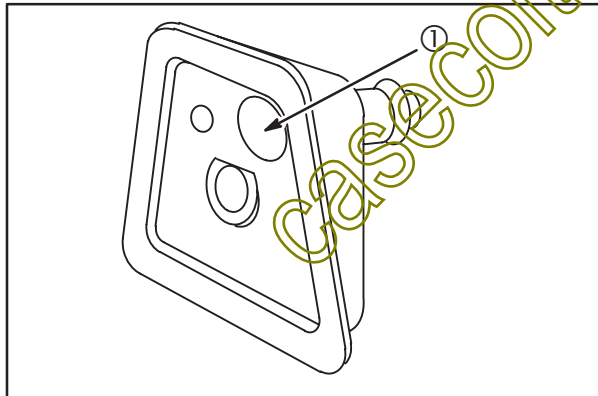

Fig. 6
The reed valve is spring loaded and must make a complete seal around the vent hole (1) in breather body, **Fig. 6.** Check to see that reed valve is not deformed.